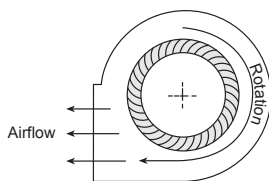

Figure 10
- c. Check wheel rotation by momentarily energizing the unit and note if rotation is in the same direction as the airflow at the outlet and conforms to the rotation decal affixed to the blower or refer to Figure 10.